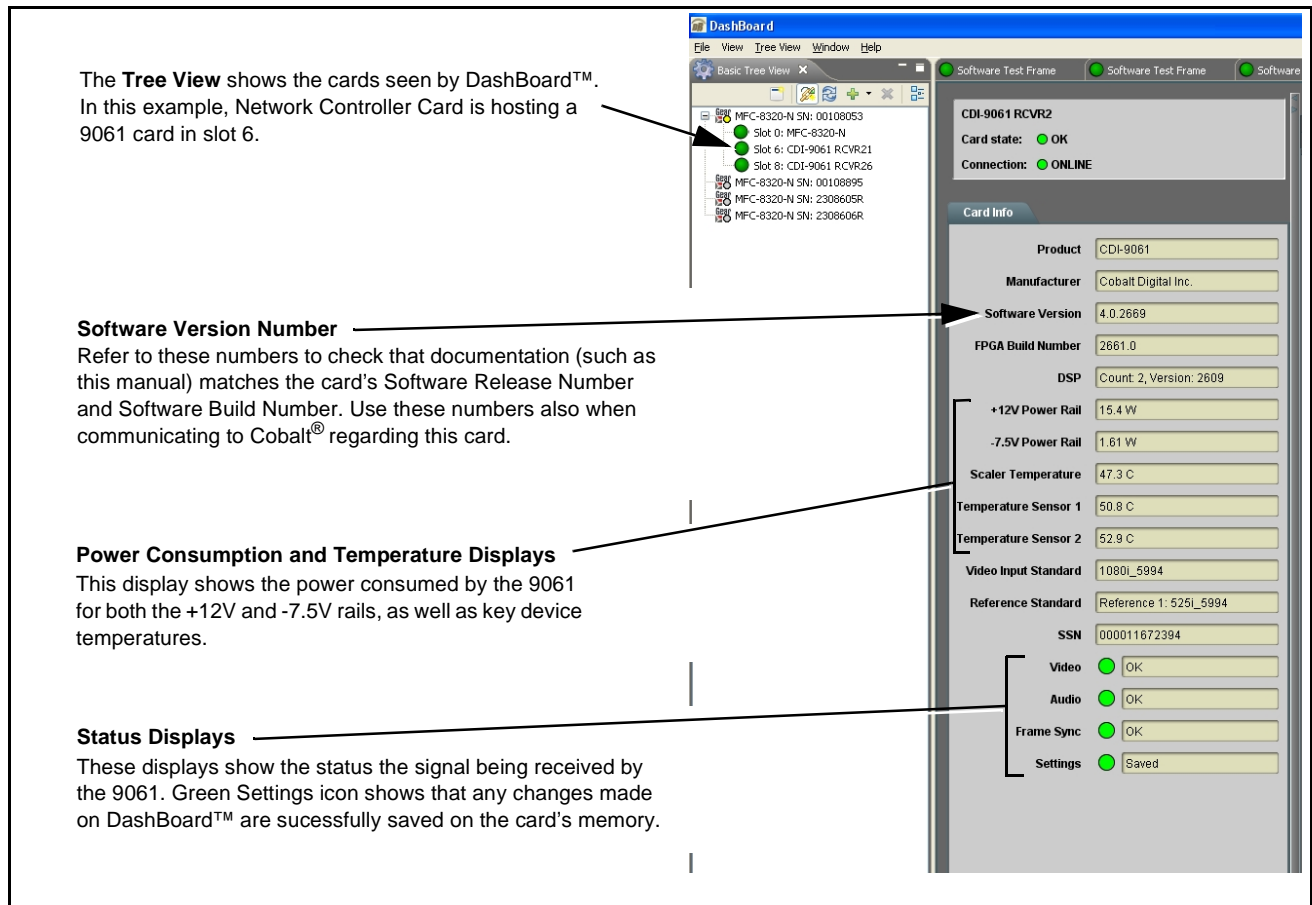

Figure 3-4 9061 Card Info Utility
The operating status and software version the 9061 card can be checked using DashBoard™ or the card edge control user interface. Figure 3-4 shows and describes the 9061 card information screen using DashBoard™ and accessing card information using the card edge control user interface.
**Note:** Proper operating status in DashBoard™ is denoted by green icons for the status indicators shown in Figure 3-4. Yellow or red icons respectively indicate an alert or failure condition. Refer to Troubleshooting (p. 3-64) for corrective action.